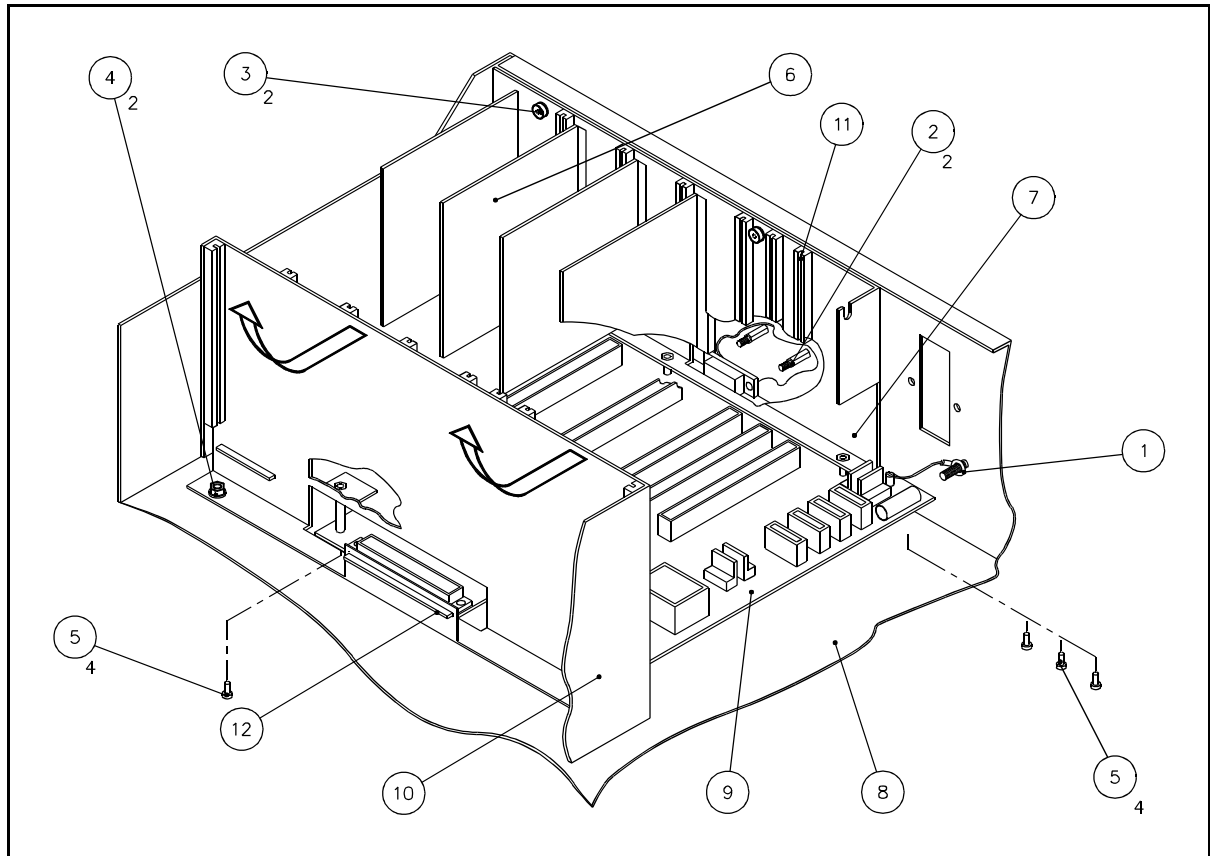

Figure 6.9 Motherboard removal
- c) Slide Multiplexer board [1] up out of card guides with gas sensor module signal cables [23], power cables [24]. Lay Multiplexer on top of front card frame (figure 6.9[10]).
Refer to figure 6.9